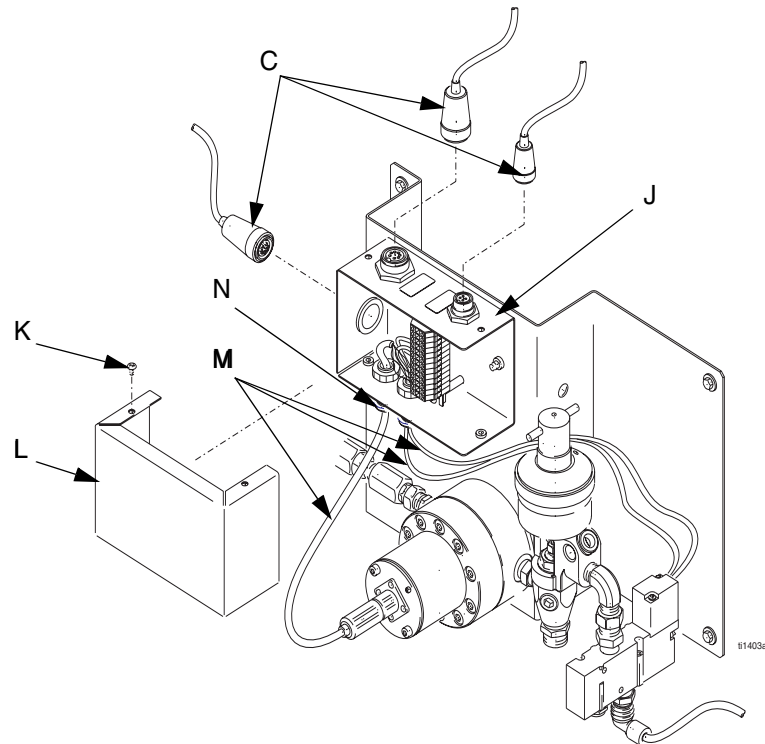

FIG. 18
2. Disconnect three cables (C) from the junction box (J). See FIG. 18.
3. Remove four screws (K) and remove junction box cover (L).
4. Disconnect meter and solenoid wires (M) from the terminal block.
5. Loosen two strain relief connectors (N) to pull out the wires.
9. Tighten two strain relief connectors (N). See FIG. 18.
10. Secure the cover (L) with four screws (K).
11. Reconnect three cables (C).